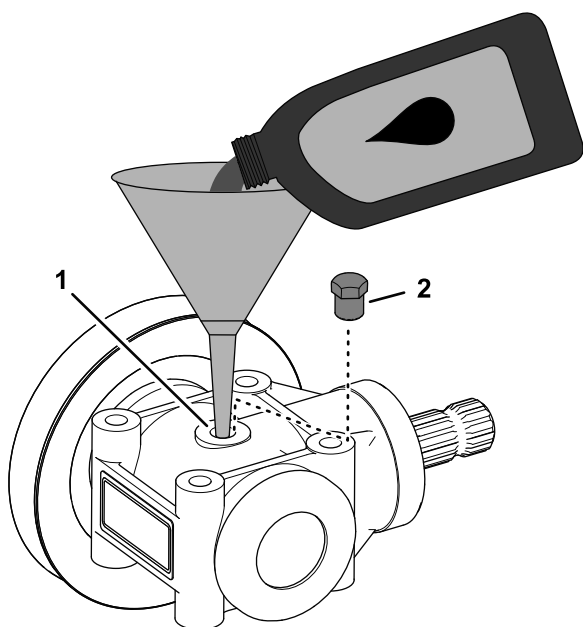

Figure 120
3. Rotate the gearbox to align the case-plug hole up (Figure 120).
4. Add 112 ml (3.8 oz) of the specified gearbox oil into the case of the gearbox through the case-plug hole (Figure 120).
5. Install the case plug into the case-plug hole of the mower-deck gearbox (Figure 120).